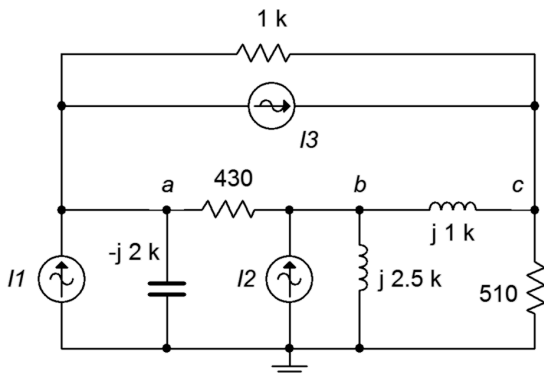

Figure 6.21
41. Given the circuit in Figure 6.21, use nodal analysis to determine v_c . $I_1 = 3\text{E-}3\angle 0^\circ$, $I_2 = 10\text{E-}3\angle 0^\circ$, $I_3 = 2\text{E-}3\angle 0^\circ$.
42. Use nodal analysis to find the current through the $-j2\text{ k}\Omega$ capacitor in the circuit of Figure 6.21.